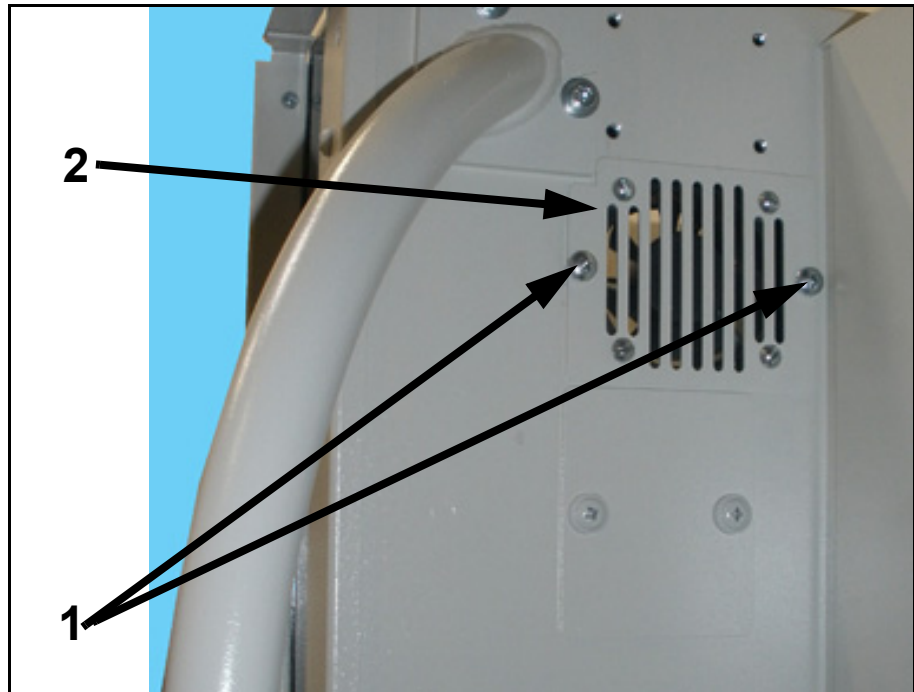

Figure 6-31. Fan Mounting Screws
- 1 Unscrew the mounting screws (1 in Figure 6-31).